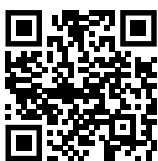

Fig. 147
- Åbn Liebherr SmartMonitoring Dashboard. (se Fig. 147)